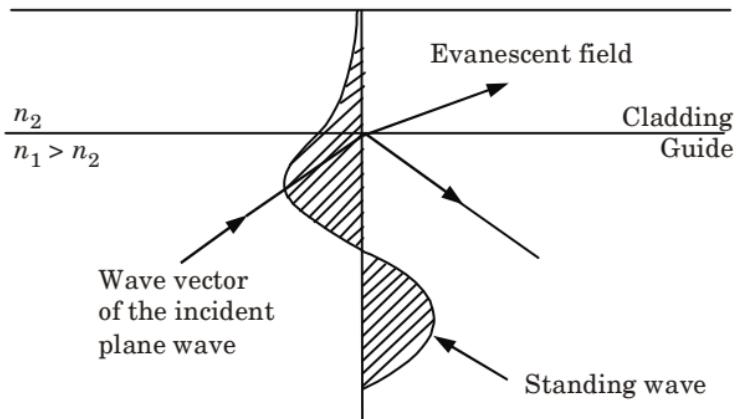

Fig. 1.16.1. The exponentially decaying evanescent field in the cladding of the optical waveguide.
- Fig. 1.16.1 shows a diagrammatic representation of the evanescent field.